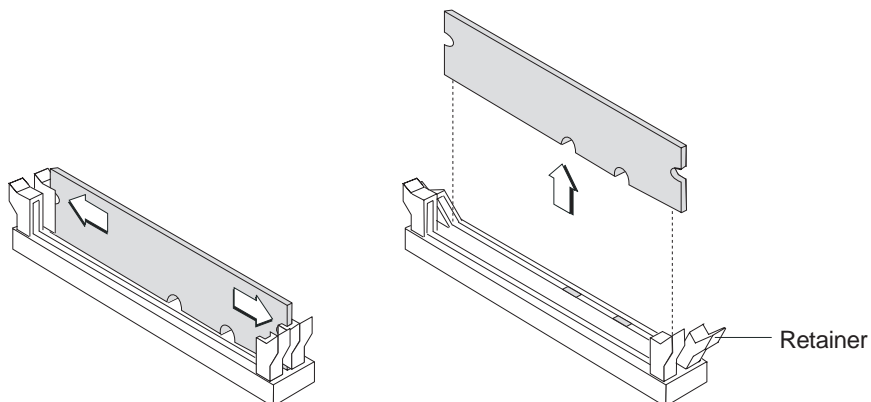

Figure 5. Memory module removal and insertion
4. Touching only the top corners of the module, align the connector tabs and press the module down firmly. The white tabs at the ends of the socket will close as you insert the module. See Figure 5 on page 8.